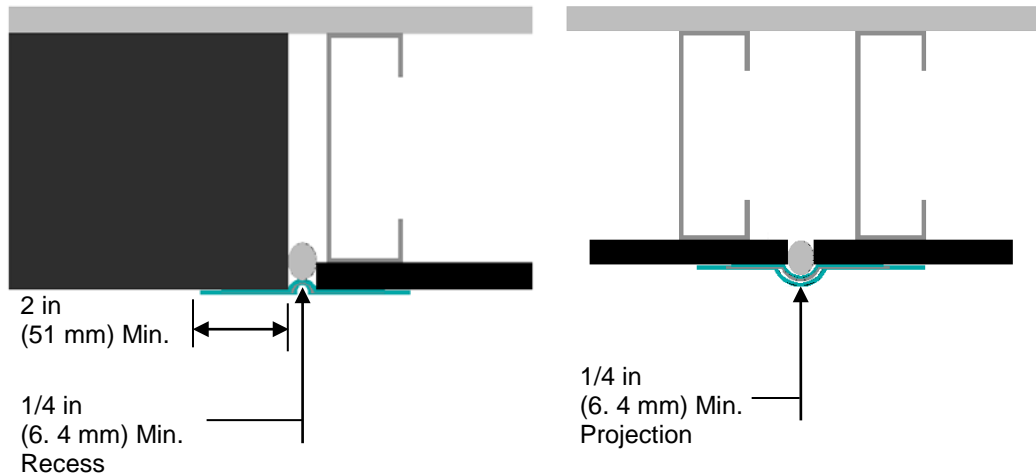

Figure 14
- a. The width of the AquaFlash Mesh must overlap each side of the joint a minimum of 2 in (51 mm) - Figure 14.